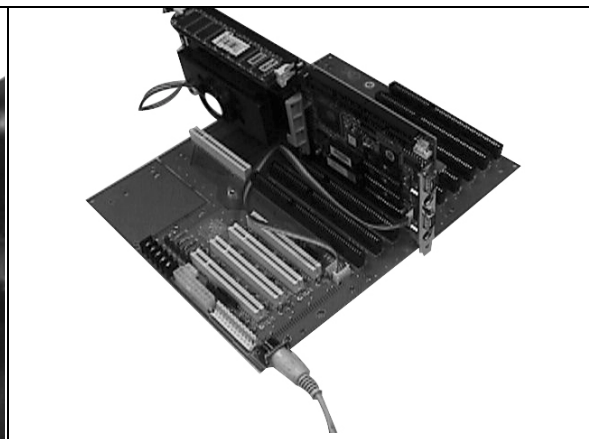

Fig. 6
1. If you use a standard PC/AT keyboard, please apply a 5-pin keyboard control cable between your SBC and backplane over the 5-pin shrouded header KB1 or KB2. This will enable KB3 (DIN connector) (**Fig. 6**).